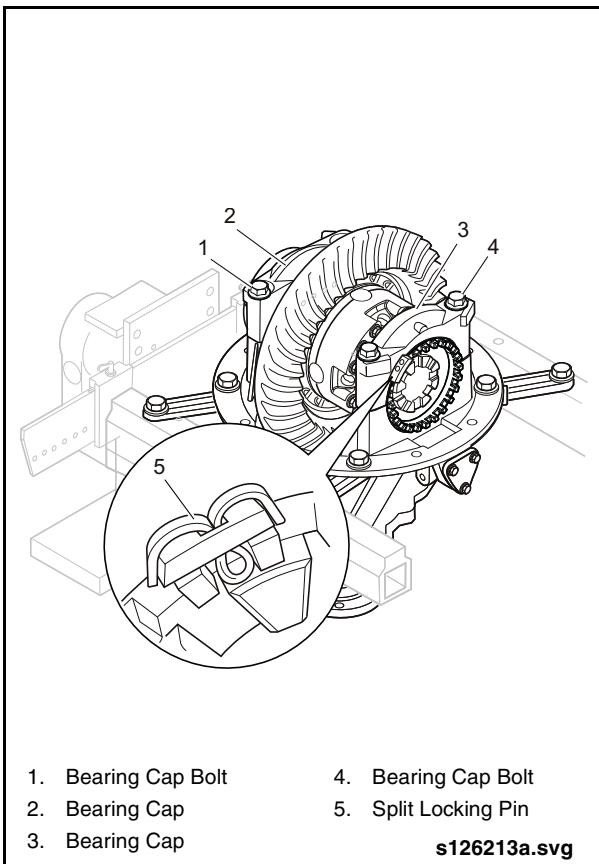

Fig. 2-47: Removing Bearing Caps
1. Remove the split locking pins for the bearing adjusters on both sides. See “Fig. 2-47: Removing Bearing Caps” on page 45.